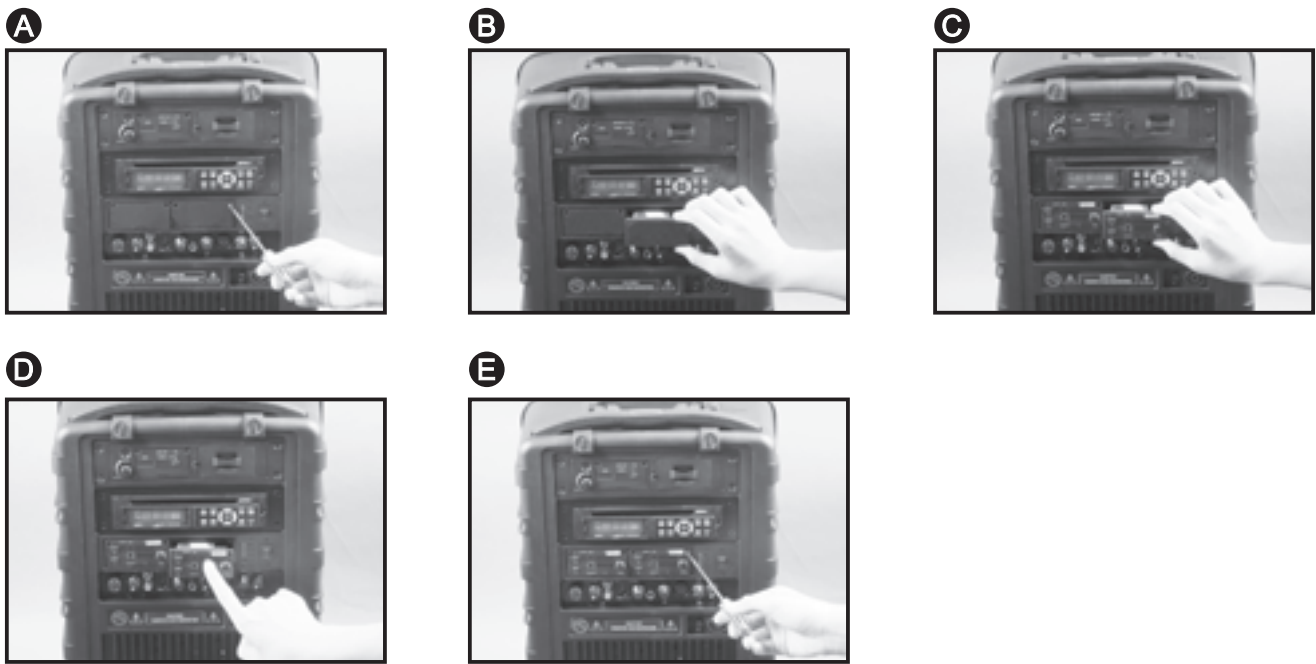

Fig. 12
2. Installation or replacement of wireless receiver modules, Fig. 12.
- (A) Using a Phillips-head screwdriver (not supplied) remove the screws to remove receiver protection cover panel. (see fig. **A** & **B**)
- (B) Gently insert the receiver module into the slot. Make sure the back edge connector is aligned and firmly connected. (see fig. **C** & **D**)
- (C) Tighten up the screws. (see fig. **E**)